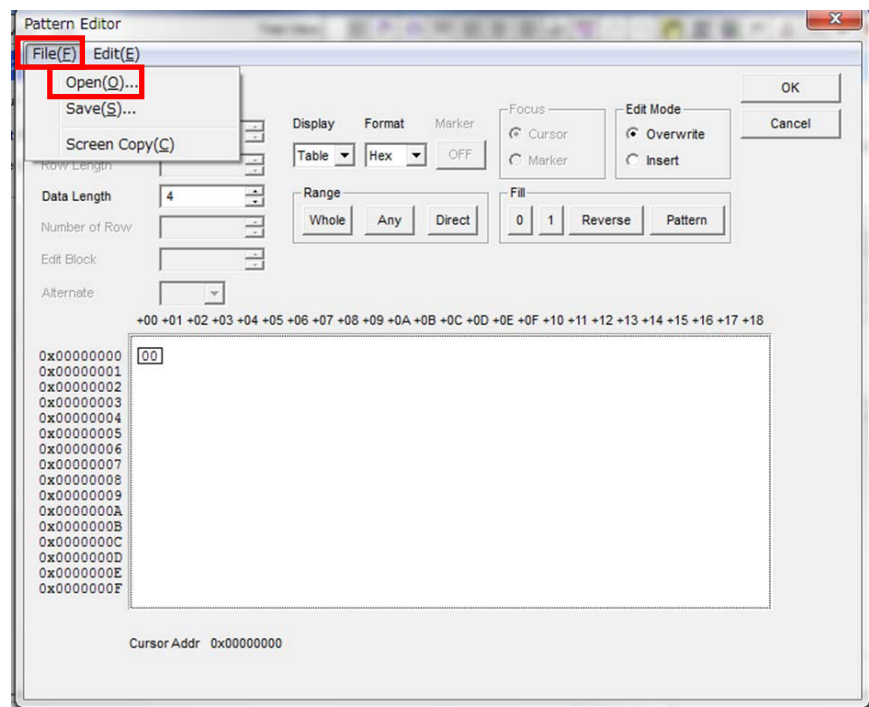

Figure G.2-3 Pattern Editor File Menu
- For other than PRBS, select **Data** and click **Edit**.Load a pattern file from the File menu on the **Pattern Editor** dialog box in Figure G.2-3.
Load a pattern file from the File menu on the **Pattern Editor** dialog box in Figure G.2-3.